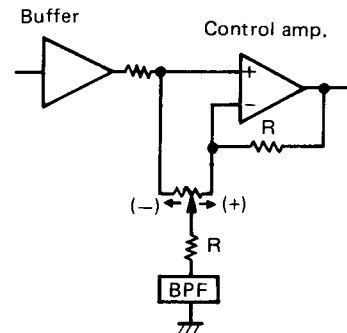
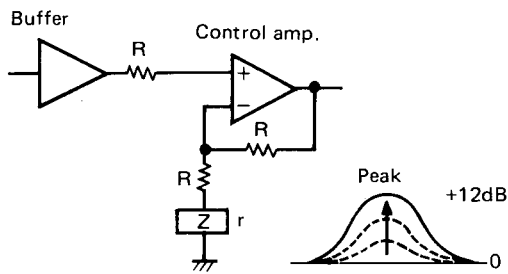

Fig. 1
Fig. 2
The equalizer circuit of this unit is shown in Fig. 1. When the control volume (VR) is turned in the direction of $\rightarrow (+)$, NF level lowers with the connection shown in Fig. 2, causing the gain of operation amplifier to increase, then the "peak" appears. Contrarily, when VR is turned in the direction of $\leftarrow (-)$, the input impedance of operation amplifier becomes lowered with the connection shown in Fig. 3. Then the frequency level is "dip".